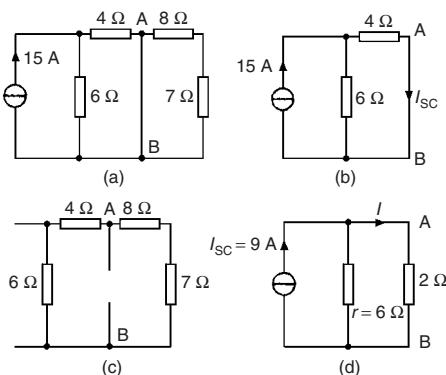

Figure 13.62
- (i) The 2Ω resistance branch is short-circuited as shown in Fig. 13.62(a).
- (ii) Fig. 13.62(b) is equivalent to Fig. 13.62(a). Hence
- (iii) If the 15 A current source is replaced by an open-circuit then from Fig. 13.62(c) the resistance 'looking-in' at a break made between A and B is given by $(6 + 4)\Omega$ in parallel with $(8 + 7)\Omega$, i.e.
- (iv) From the Norton equivalent network shown in Fig. 13.62(d) the current in the 2Ω resistance is given by: